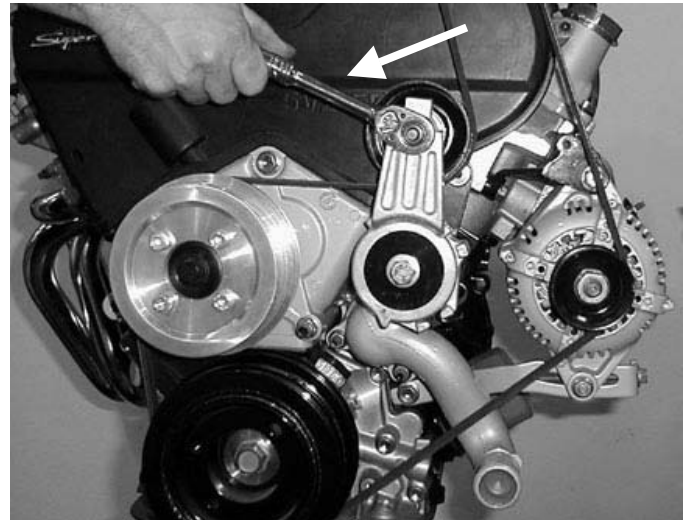

Figure 17
4. Retract the dynamic tensioner with a 3/8" ratchet and place the drive belt back over the supercharger pulley (Figure 17). Make sure the belt is routed properly and is centered on all pulleys.